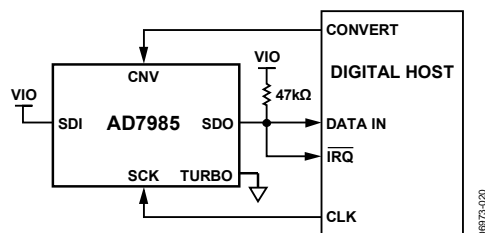
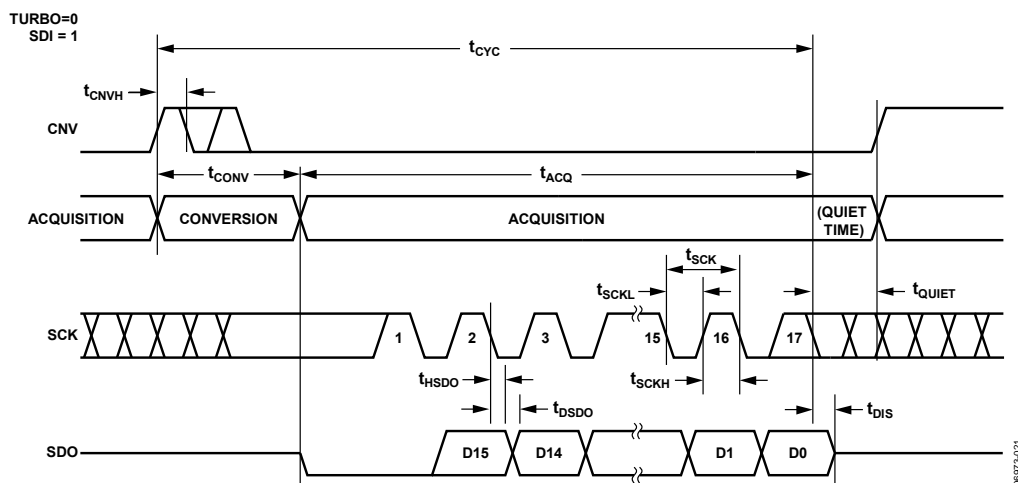
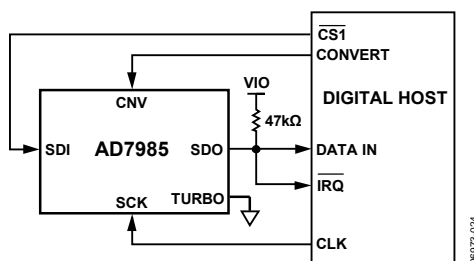
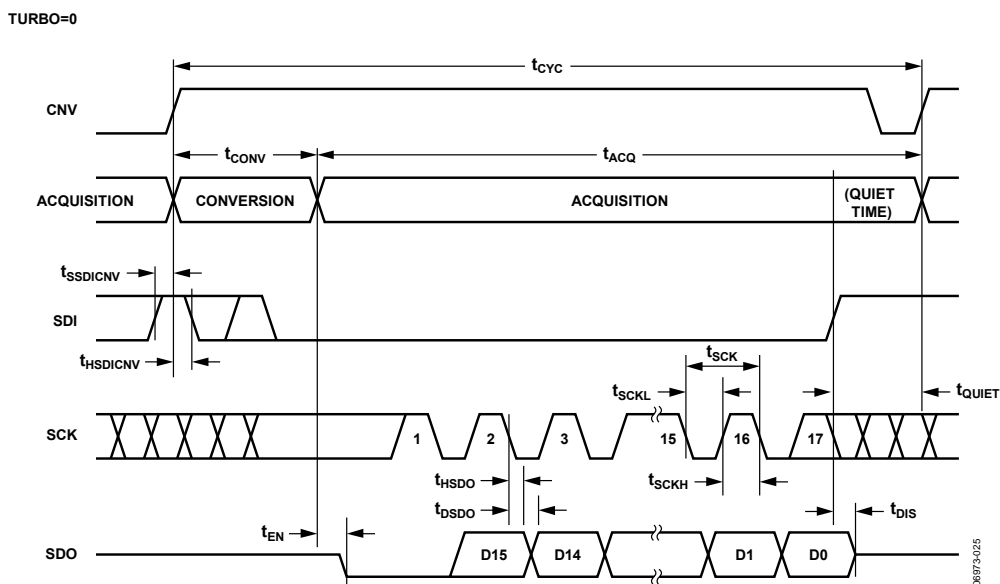

Figure 12. $\overline{\text{CS}}$ Mode, 3-Wire with Busy Indicator Connection Diagram (SDI High)
Figure 13. $\overline{\text{CS}}$ Mode, 3-Wire with Busy Indicator Serial Interface Timing (SDI High)
Figure 16. $\overline{\text{CS}}$ Mode, 4-Wire with Busy Indicator Connection Diagram
Figure 17. $\overline{\text{CS}}$ Mode, 4-Wire with Busy Indicator Serial Interface Timing
- In the \overline{CS} mode if CNV or SDI is low when the ADC conversion ends (see Figure 13 and Figure 17).
The connection diagram is shown in Figure 12, and the corresponding timing is given in Figure 13.
The connection diagram is shown in Figure 16, and the corresponding timing is given in Figure 17.